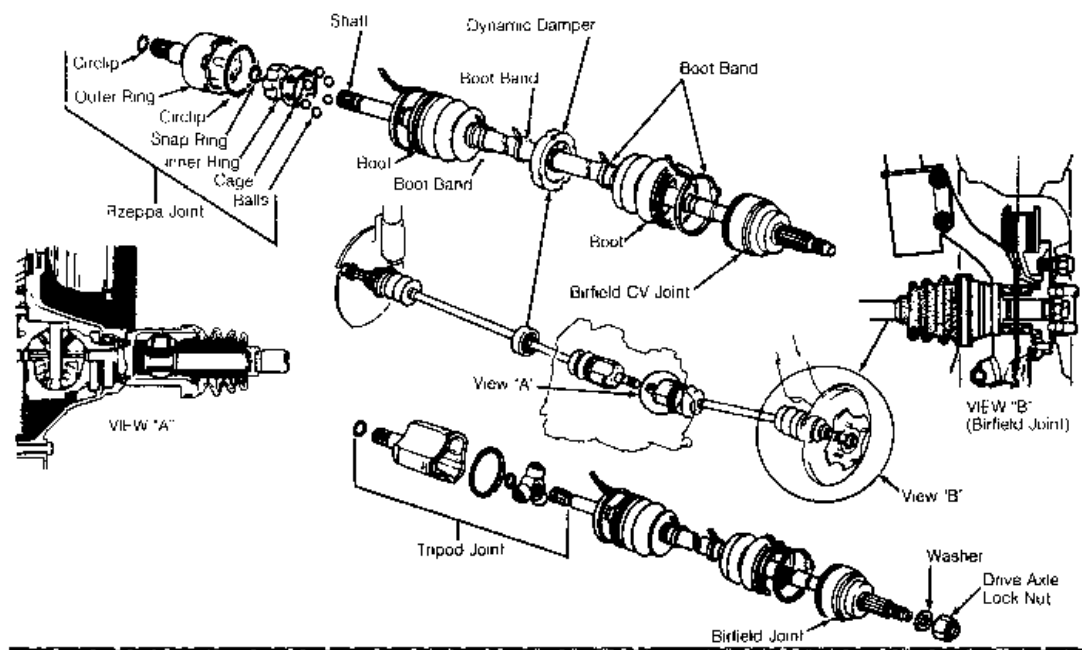

Fig. 2: Exploded View Of Axle Shafts & CV Joints
1. Label and remove CV joint boot. Mark alignment of axle shaft to outer race of CV joint. Remove circlip and outer bearing race housing. Mark alignment of inner race to shaft. Remove inner snap ring. Remove cage assembly. See Fig. 2.
Remove boot clamp and boot. Paint an alignment mark of axle shaft to outer race of CV joint. Remove circlip and outer bearing race housing. Mark alignment of inner race to shaft. Remove snap ring and remove tripod assembly using a soft brass drift and hammer. See Fig. 2.